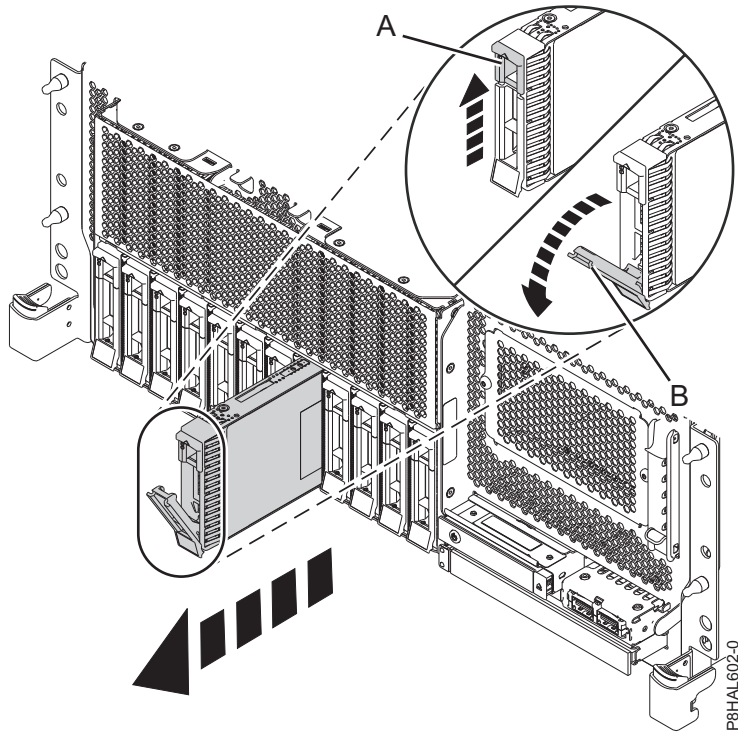

Figure 118. Removing a disk drive from a rack-mounted base function system
3. When the identify LED flashes, unlock the drive handle (B) by pressing the handle latch (A) and pulling it out toward you, as shown in Figure 118 on page 129, Figure 119 on page 129, Figure 120 on page 130, and Figure 121 on page 131. If the handle is not all the way out, the solid-state drive cannot slide out of the system.